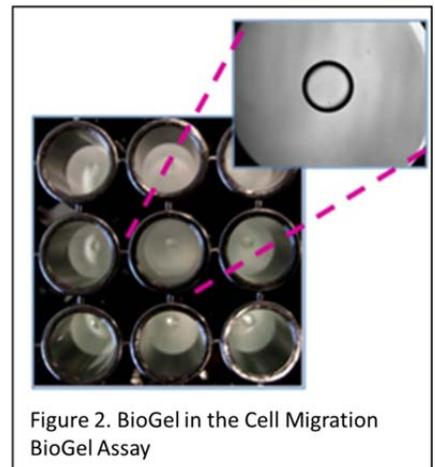

Figure 2. BioGel in the Cell Migration BioGel Assay
4. Incubate the seeded plate(s) containing the Cell Migration BioGel (see **Figure 2**) in a humidified chamber (37°C, 5% CO2) for 1 to 4 hours (cell line dependent) to permit cell attachment.